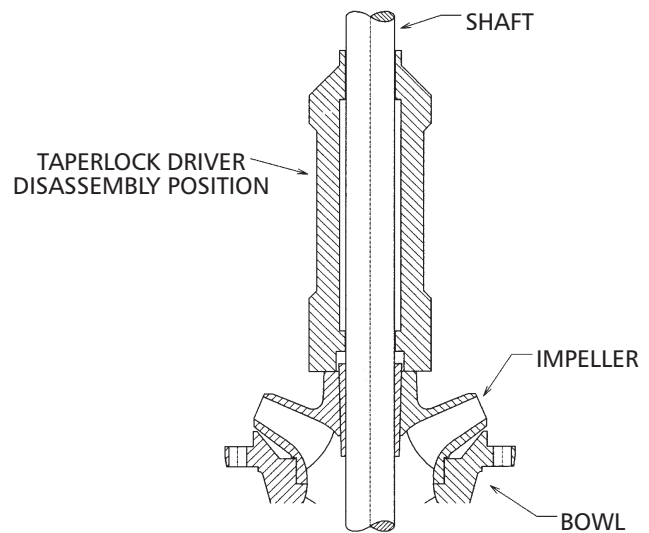

Figure 12
3. Pull shaft out as far as possible and strike Impeller hub by a taperlock driver or equivalent sliding along the pump shaft to drive the impeller off the taperlock (See Figure 12).